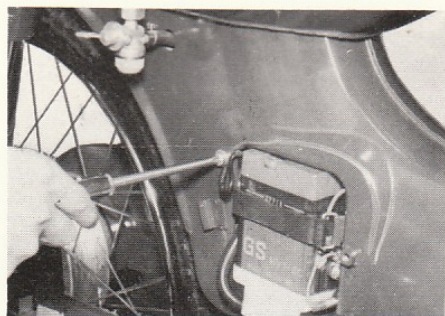

Fig. 3-1
1. Remove the battery cover, and remove the battery. (Fig. 3-1).